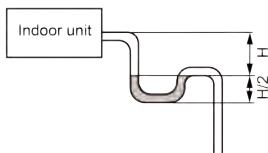

Fig. 4.21
- (4) When the drain hose cannot keep a sufficient gradient, it is necessary to fit a riser pipe (field supplied) to it.
- (5) If the air flow of indoor unit is high, this might cause negative pressure and result in return suction of outdoor air. Therefore, U-type water trap shall be designed on the drainage side of each indoor unit. (Fig. 4.21)
- (6) Install one water trap for each unit.
- (7) Installation of water trap shall consider easy cleaning in the future.